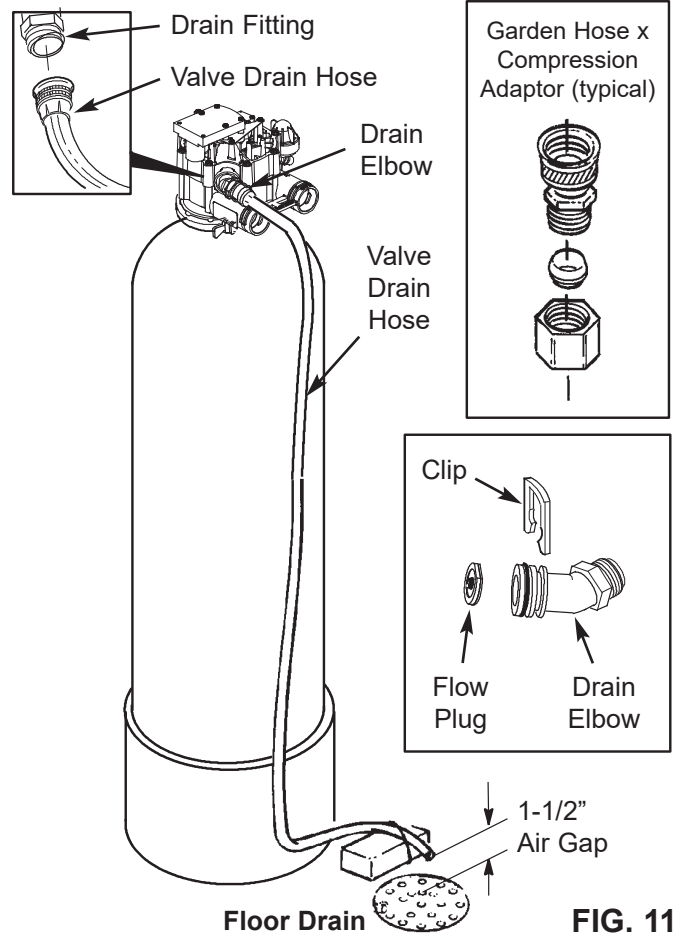

FIG. 11
5. Install Valve Drain Hose: The drain fitting accepts a garden hose connection (Figure 11). Attach the drain hose to the drain elbow. Place the other end of the hose at the drain point, and observe the following.